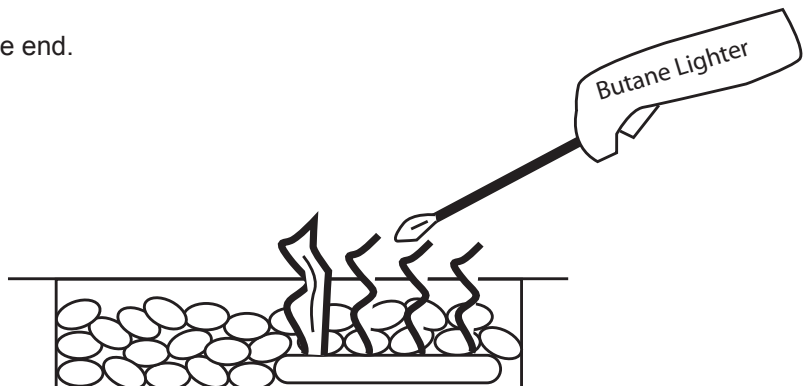

Fig. 13 Using Butane lighter to light fire pit.
2. Light a long match or butane lighter and hold it near the burner (see Fig. 13).